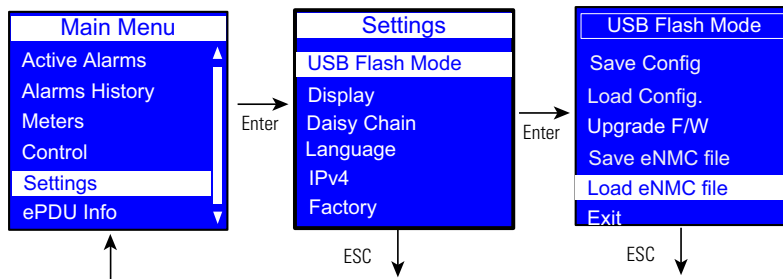

Figure 74. Example Load NMC File
4. Select Load eNMC file, then click **OK** to upload the ePDU hardware configuration file to the eNMC (see Figure 74).